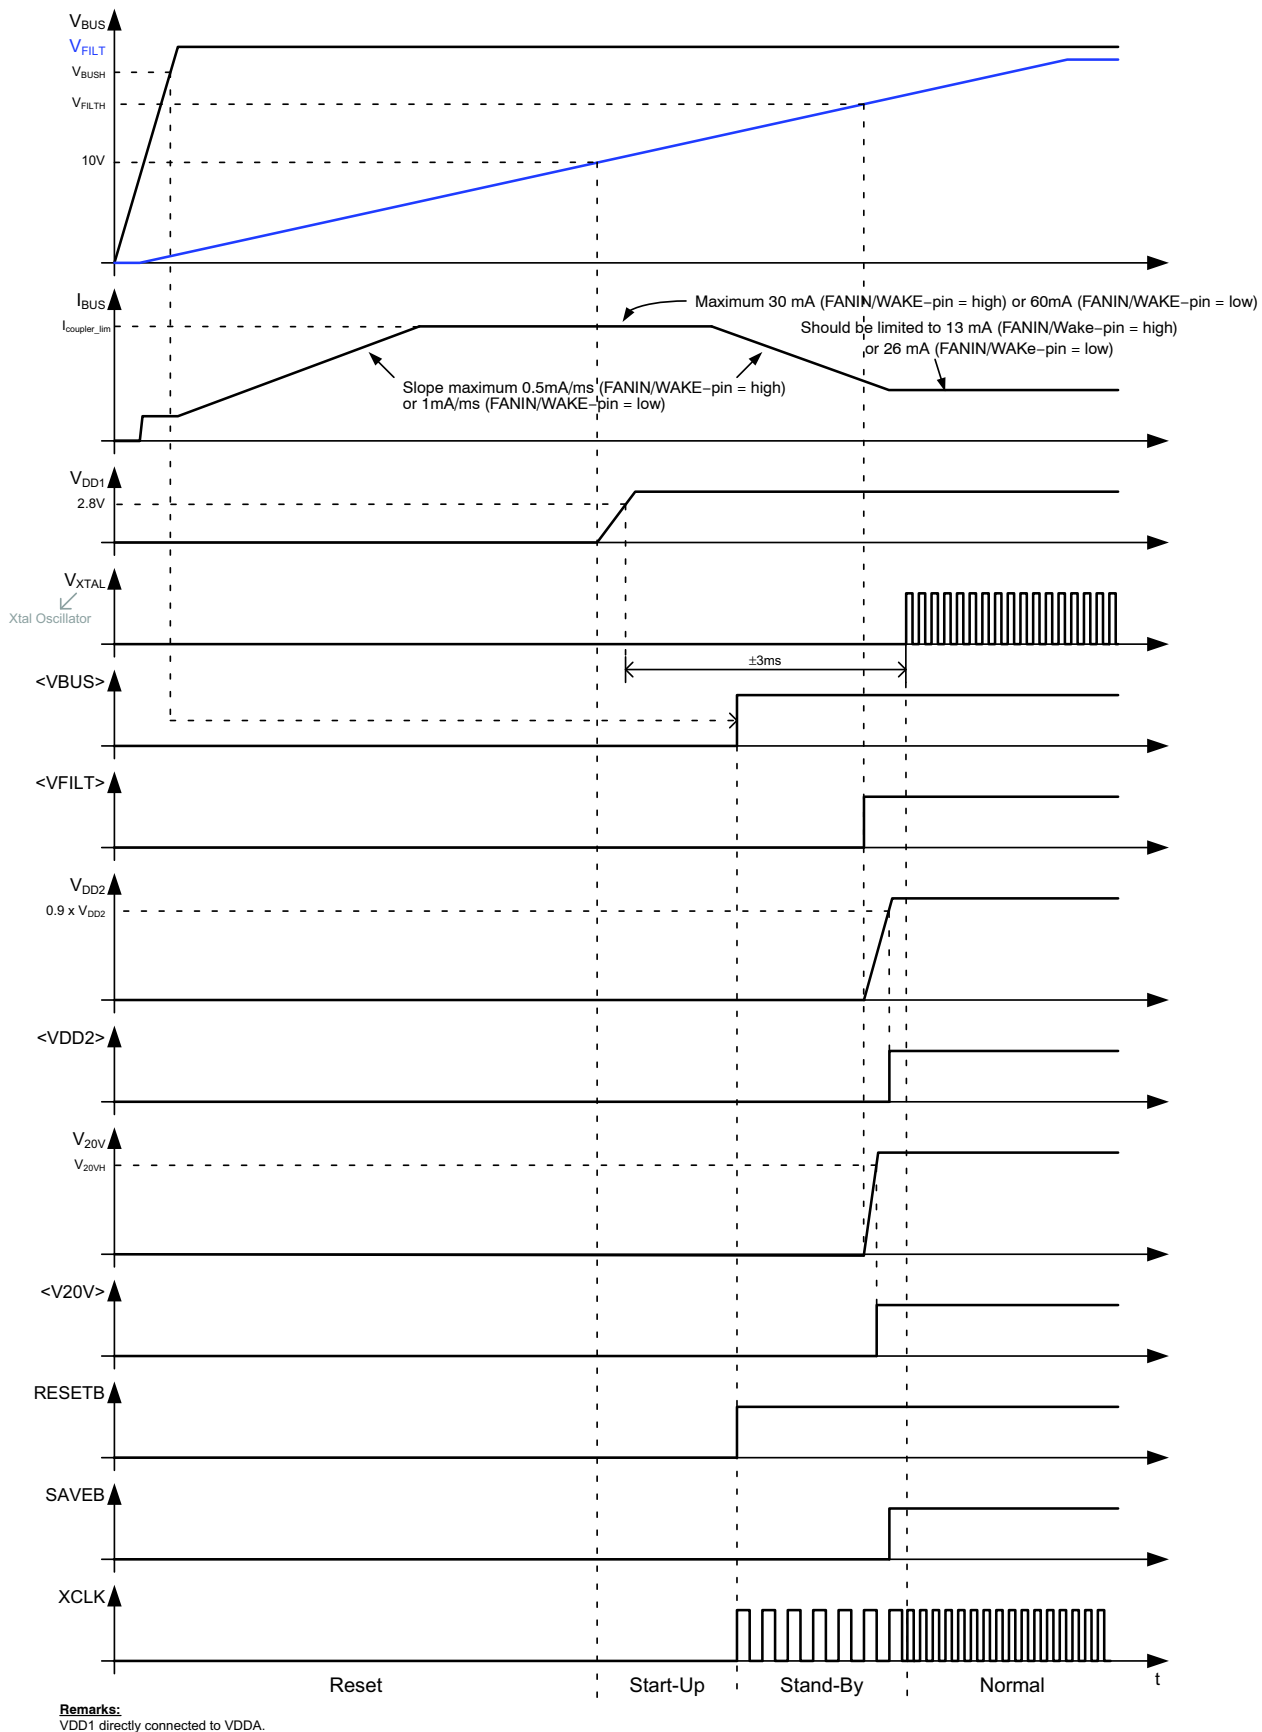

Figure 21. Start-Up Behavior
After power–up, a 4 MHz (Note 3) clock signal will be present on the XCLK–pin during Stand–By. When Normal State is entered, a 8 or 16 MHz clock signal will be present on the XCLK–pin. See also Figure 21.
Figure 21 gives a detailed view on the start-up behavior of NCN5120. After applying the bus voltage, the filter capacitor starts to charge. During this Reset State, the current drawn from the bus is limited to I_{coupler} (for details see the KNX Standards). Once the voltage on the filter capacitor reaches 10 V (typ.), the fixed DC-DC converter (powering VDDA) will be enabled and the device enters the Start-Up State. When V_{DD1} gets above 2.8 V (typ.), the OTP memory is read out to trim some analog parameters (OTP memory is not accessible by the user). When done, the Stand-By State is entered and the RESETB-pin is made high. If at this moment V_{BUS} is above V_{BUSH}, the VBUS-bit will be set (<VBUS>, see System Status Service, p33). After approx. 2 ms the Xtal oscillator will start. When V_{FILT} is above V_{FILTH} DC2 and V20V will be started. When the Xtal oscillator has started, no Thermal Warning (TW) or Thermal Shutdown (TSD) was detected and the VBUS-, VFILT-, VDD2- and V20V-bits are set, the Normal State will be entered and SAVEB-pin will go high.